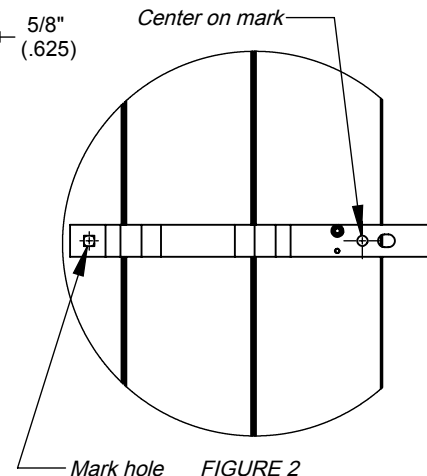

FIGURE 2
**Step 2** Use the handle as a template to mark the location of the second hole. (see figure 2)